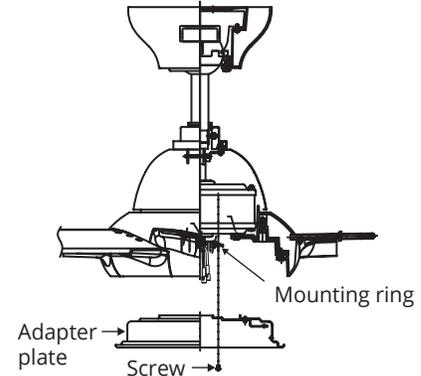

FIGURE 19
2. Place the key holes in the adapter plate over the two screws previously loosened from the mounting ring. Turn the adapter plate until the adapter plate locks in place at the narrow section of the key holes. (Fig. 19)